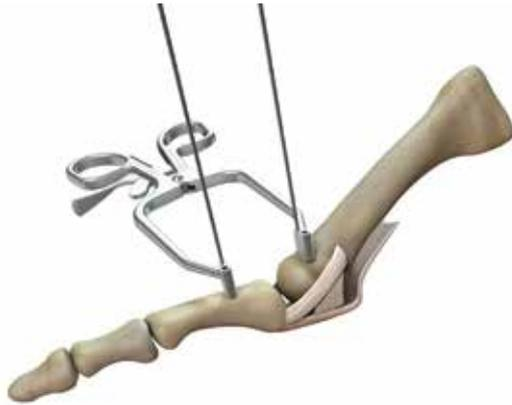

Figure 3
5. Distract the MTP joint using the Small Joint Pin Distractor (REF 72204347) and 1.6mm or 1.1mm K-wires on both sides, approximately 1cm from the joint (Figure 3).